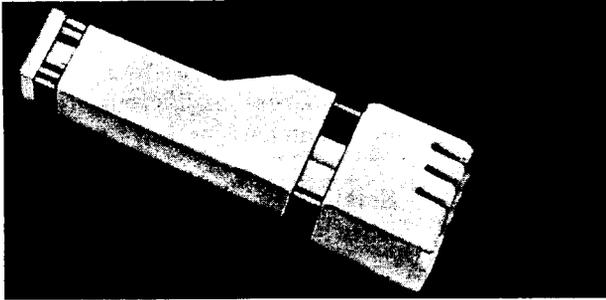

Fig. 1—459-Type Plugs (3-Wire Switches)
1.04 The 459-type plugs (Fig. 1 and 2) consist of a 2-part, molded shell containing preformed contact springs and, in some cases, a grounding spring. Clamp springs fasten the shell halves together and prevent reopening of the shell after assembly. When mounted in position on the switch, the plug is self-supporting.